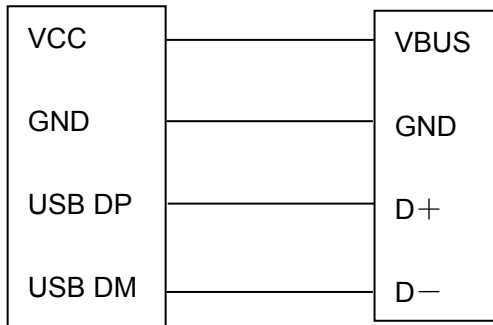

Figure D-5 Connecting figure of printer and computer USB
2. Connecting with printer and computer USB interface shown as figure D-5.